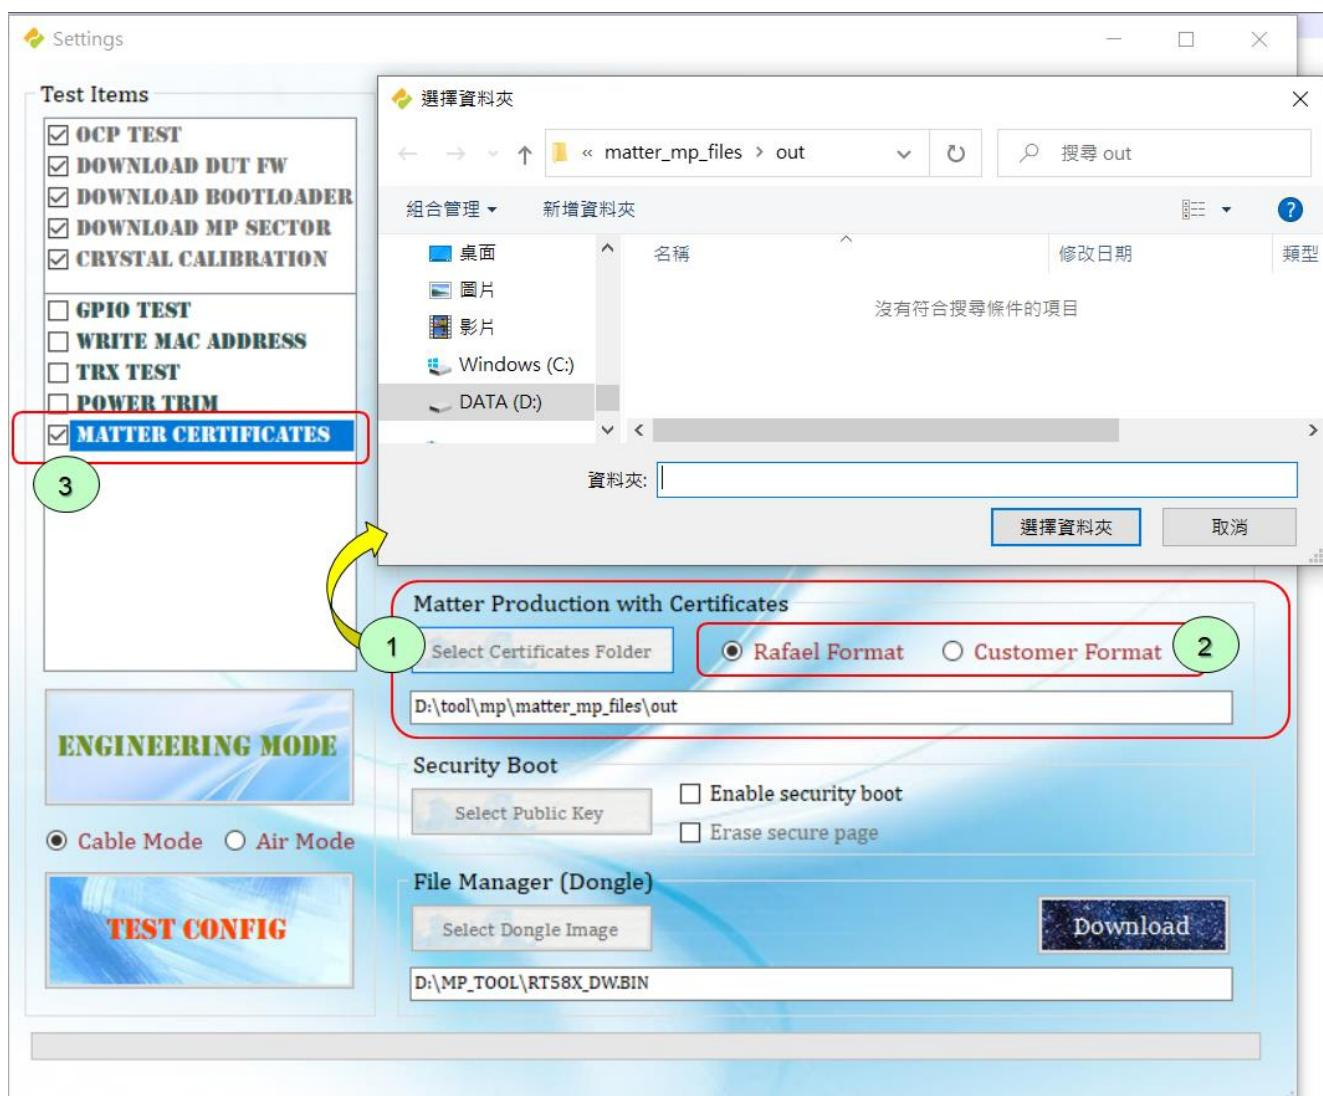

Figure 29. Select certificates folder
1. Select certificates folder, which contains certificates bin files as shown in Figure 29.